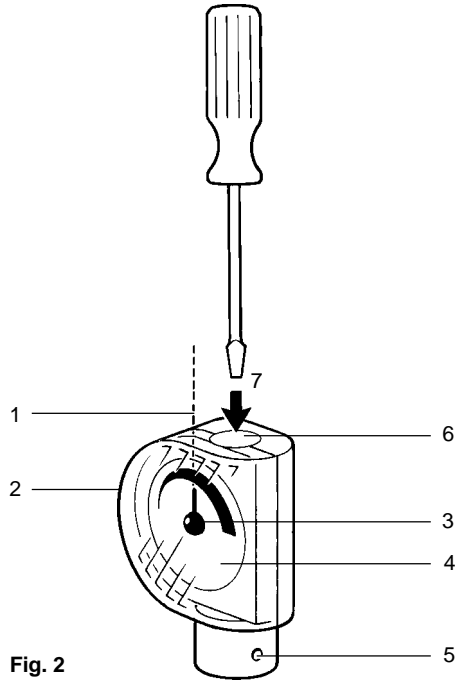
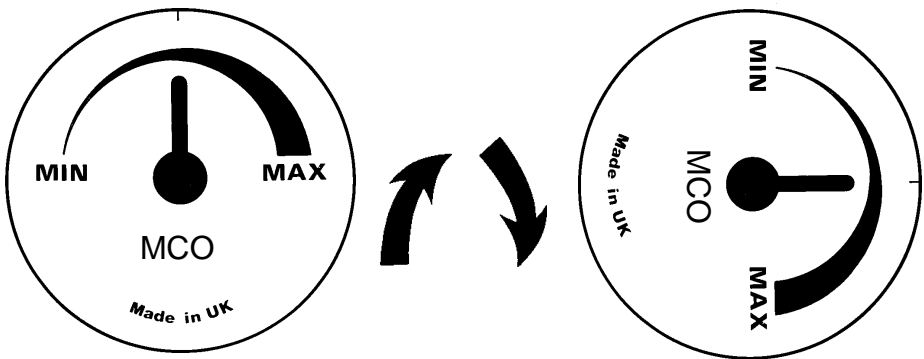
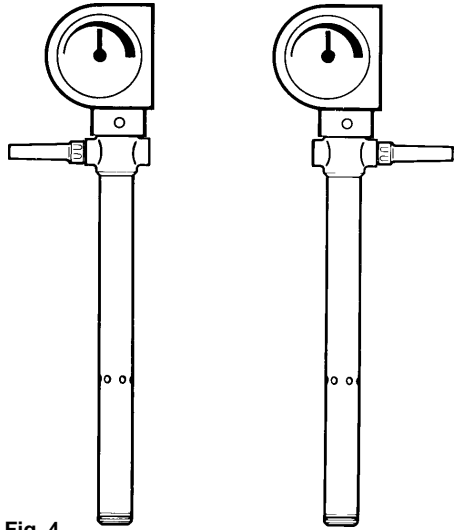

Fig. 2
Fig. 3
Fig. 4
1. Rotation of temperature scale (See Fig. 3).
2. Rotating the dial head (See Fig. 4).
In some instances it may be necessary to rotate the scale so the set temperature may be more easily read. In such cases the following procedure should be adopted and references made to **Figure 2** and **Figure 3**.
1. Remove tamper proof plug (Fig 2, Item 6) and use a suitable screwdriver to set indicator (Fig 2, Item 3) to midway point (Fig 2, Item 1)
2. Remove transparent cover (Fig 2, Item 2)
3. Remove indicator (Fig 2, Item 3)
4. Remove the scale (Fig 2, Item 4) from the indicator and relocate to desired position. (Fig.3)
5. Replace indicator (Fig 2, Item 3) to the midway point of the scale. (Fig 2, Item 1)
6. Replace transparent cover. (Fig 2, Item 2)
The dial head itself may be rotated through 180° if necessary. In such cases the following procedure should be adopted and reference made to **Figure 2** and **Figure 4**.
4. Remove dial head retaining screws (Fig 2, Item 5)
6. Replace dial retaining screws. (Fig 2, Item 5)
For the following instructions you should make reference to Figure 2. The sensor is despatched with its adjustment set to the highest limit and should be set on site to the midway mark (Fig 2, Item 1).
To make any adjustments to suit individual requirements a suitably sized screwdriver is engaged in the adjustment drive (Fig 2, Item 7) on the end of the indicator dial. Turning clockwise will lower the temperature, anticlockwise will increase it. After setting the plant to work, compare the thermometer reading with the scale reading on the temperature control reading. This may be found to differ by a few degrees, if precise control is required it can be adjusted by resetting the scale as follows:-
1. Remove the transparent front cover (Fig 2, Item 2) of the indicator head and turn the indicator manually (Fig 2, Item 3) until it corresponds to the actual temperature.
2. Replace transparent cover (Fig 2 Item 2)